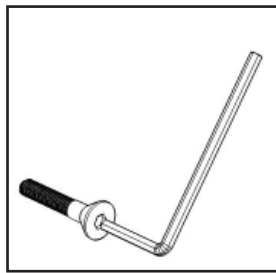

Figure 1
Attach Stretcher (I) to Frame (F) with Tapered Head Cap Bolt. (See Figure 1)